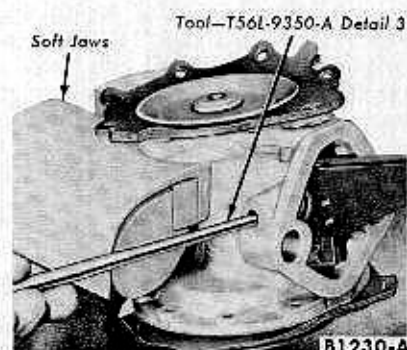

FIG. 2—Rocker Arm Pin Removal or Installation
7. Remove the upset on the end of the rocker arm pin. Remove the retaining washer, then drive the pin out (Fig. 2) and work the fuel pump and booster links out of the diaphragm stems.
6. Place the rocker arm return spring over the boss in the pump body. Place the rocker arm and link assembly in the pump body and hold them in place (Fig. 2).